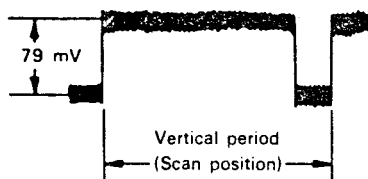
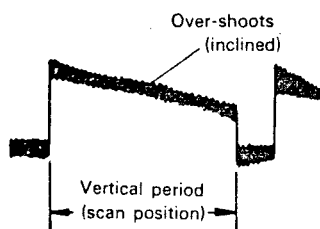

Fig. 37
Fig. 38
- 2) Adjust VR112 to set the waveform in Fig. 37 to 79 mV.
- 3) When there is over-shoots as shown in Fig. 38, fine adjust VR209 to make it flat as shown in Fig. 37.